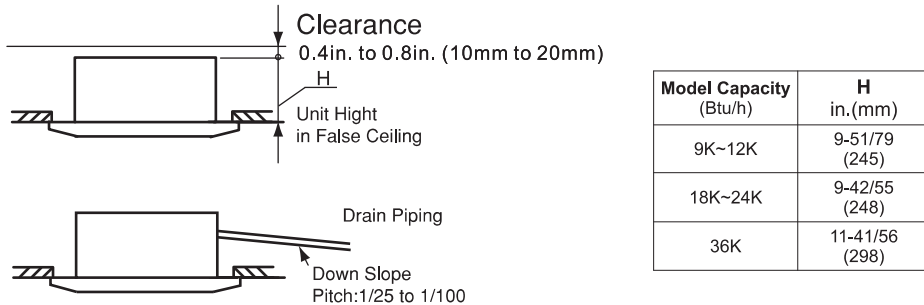

Fig. 3.2 Installation Location of Indoor Unit
- Select the installation location as shown in Fig 3.2:
- (A) Minimum Space
- (B) Down Slope Pitch of Drain Piping: 1/25 ~ 1/100